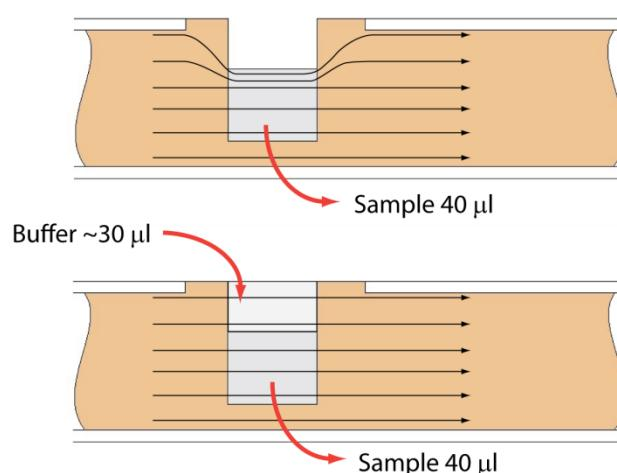

Figure 11.1. An illustration of the electrophoretic effect on a DNA sample when a sample well is not completely filled.
Proper sample loading is critical for best performance of BluePippin cassettes. For maximum reproducibility and accuracy, the sample should travel through the central section of the gel column, and should be bounded on all four sides by uniformly conductive media – either gel or electrophoresis buffer. The goal of the loading procedure is to produce this geometry in the sample loading well, as illustrated in the bottom section of **Figure 11.1**. Properly prepared samples will be 40 μ l in total volume consisting of 30 μ l of DNA mixed with 10 μ l of BluePippin loading solution. The loading solution contains concentrated Ficoll as a densifying agent (see following chapter on Sample Preparation for details), and therefore the samples will sink and form a high density layer beneath the electrophoresis buffer when pipetted slowly into the sample wells. If there is insufficient conductive buffer over the sample, the electrophoretic forces lines will curve upward as the sample exits the well (see **Figure 11.1**, upper section), and the sample will be drawn to the top of the cassette where it can travel out of the gel into the gap between the gel column and the plastic top of the channel. Sample moving in this gap will travel at a different rate than the sample inside the gel column, and will lead to elution of undesired size fractions in the eluted material. In such cases, the contaminating DNA will usually (but not always) be higher in molecular weight than the selected DNA.
2. **Remove 40 μ l of buffer from the first sample well, and load 40 μ l of sample (or marker) into that well.** Take care not pierce the agarose with the pipette tip. There is gel on all sides and bottom of the sample well. In addition, there is an agarose “chimney” surrounding the top of the sample well that protrudes up through the cassette cover (see **Figure 11.1**). When removing buffer, some users find it useful to immerse the pipette tip just below the surface of the buffer and follow the liquid level down with the tip as the buffer is removed. When buffer removal is completed, there will be ~30ul of buffer left in the well. When adding sample, place tip of pipette just below the surface of the buffer, and follow the liquid level up with the tip as the well fills. Don’t be concerned if the sample well slightly overfills. The density of the sample will allow it to sink before it can flow out of the well.